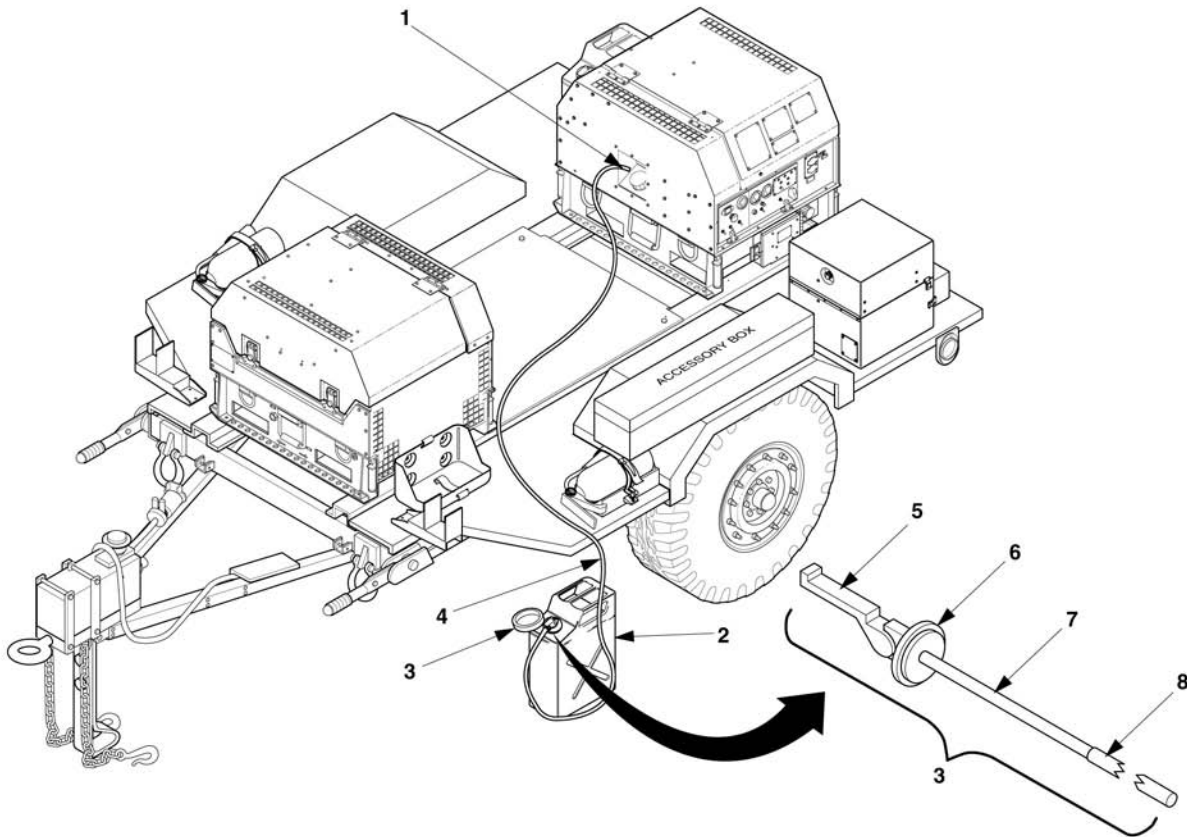

Figure 2-4. Auxiliary Fuel (Typical).
- a. Place the external fuel source (2, Figure 2-4) several feet, but no more than 25 feet, away from the generator set